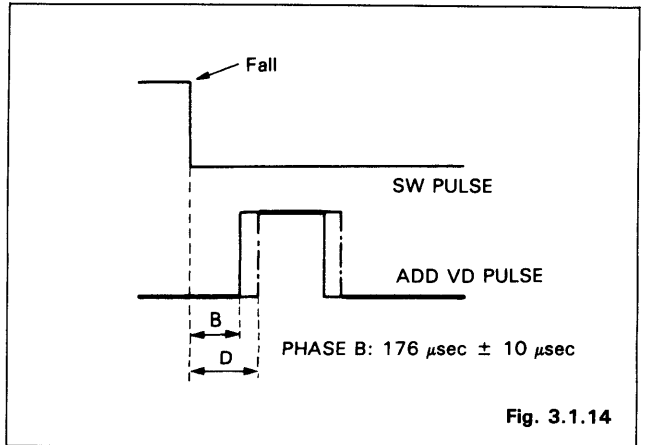

Fig. 3.1.14
1. Adjust VR706 (STILL) so that the width "B" becomes $176 \mu\text{sec} \pm 10 \mu\text{sec}$ as shown in Fig. 3.1.14.